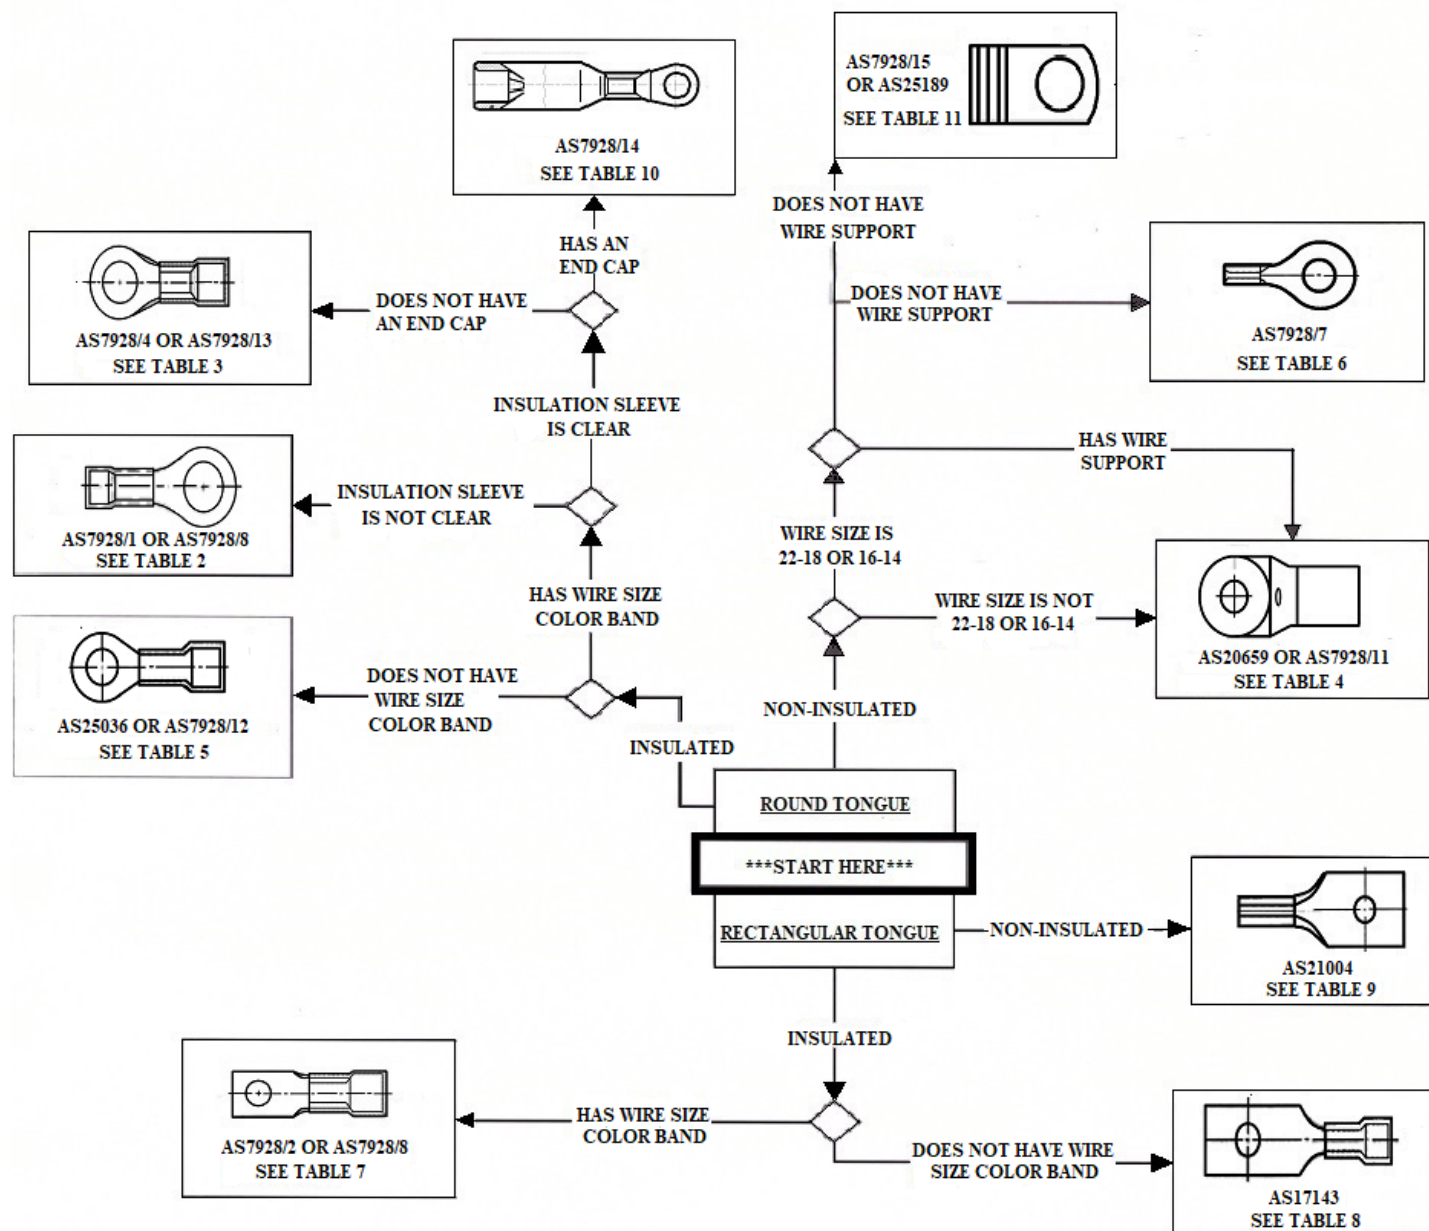

Figure 2 - Decision tree for terminal identification
The specified characteristics of the AS7928 terminals allow each terminal to be uniquely identified. Those characteristics are listed in 3.2.1. By understanding and identifying these features, a user can identify the specific SAE part number and supplier of a given terminal. Figure 1 shows the characteristic features necessary for identification. Marking on the tongue is typical of what is shown, but not all marking is required by AS7928. The wire sizes marked on terminal may or may not be shown depending on the AS7928 detail specification for terminal. The manufacturer's mark in accordance with AIR1353 is required. Figure 2 shows the process steps to be followed.
3.2.2 Using Figure 2, identify the appropriate specification detail sheet and table for the terminal lug.